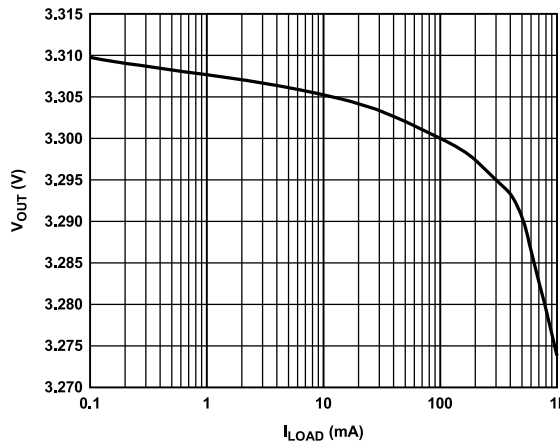

Figure 11. Output Voltage ( $V_{OUT}$ ) vs. Load Current ( $I_{LOAD}$ )
- 2 Based on an end-point calculation using 10 mA and 1 A loads. See Figure 11 for typical load regulation performance for loads less than 10 mA.